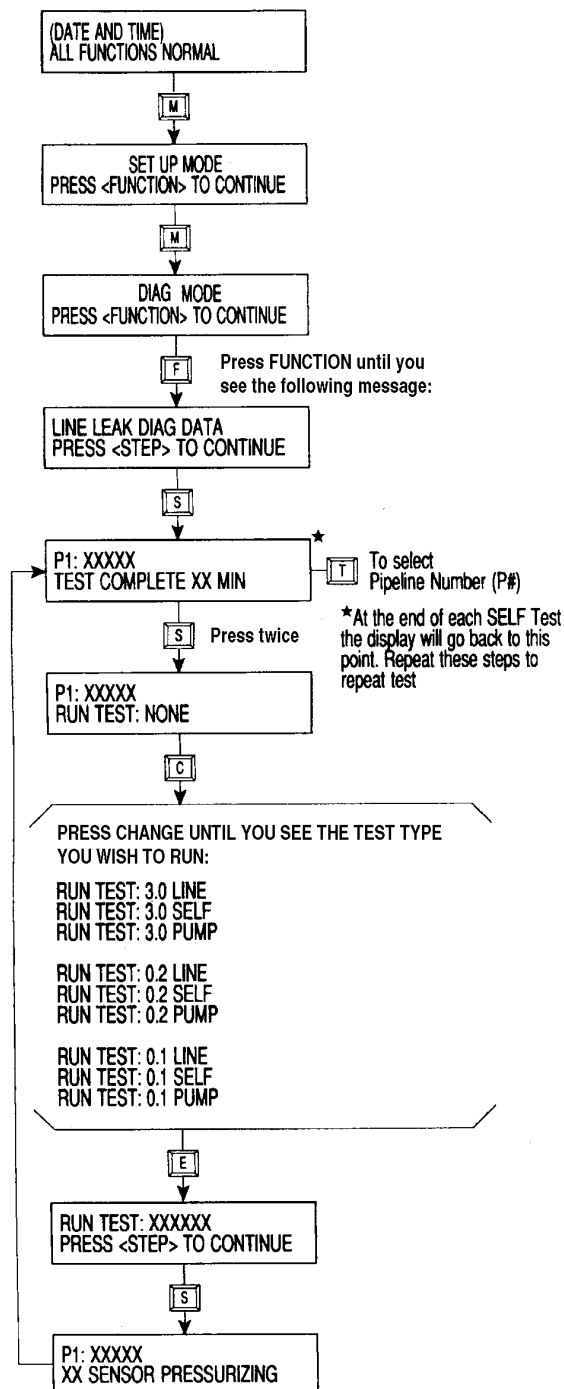

Figure 14. Flow Chart for VLLD Diagnostic Test Procedure
3. Step through the test procedure as illustrated in the following flow chart [Figure 14 on page 35], making sure to select the appropriate pipeline and the appropriate test where indicated.